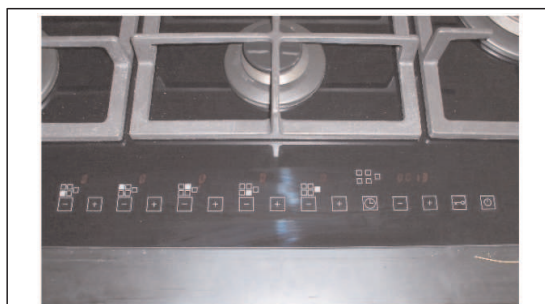

FIG. 9
To confirm the minimum capacity required, it is necessary to press the Clock button (11). The word "MIN" will continue to be present and none of the leds will flash. At this point it is possible to press the Clock button (11) to exit the procedure, or press buttons 12 and 13 to select another burner and programme its minimum capacity. The minimum capacity levels will then be acquired and memorised by the device, and will be used in the normal use of the hob (see fig. 9).
To complete the procedure the operator must press the Clock button (11). The activation of this function implicates the cancellation of any switch-off times programmed for the burners (see fig. 9).
The activation of this function implicates the cancellation of any switch-off times programmed for the burners (see fig. 9).